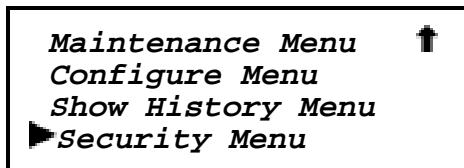

Figure 3-38 Main Menu, Scrolled
4. Press the **Enter** button to select the Security Menu, shown in Figure 3-38.